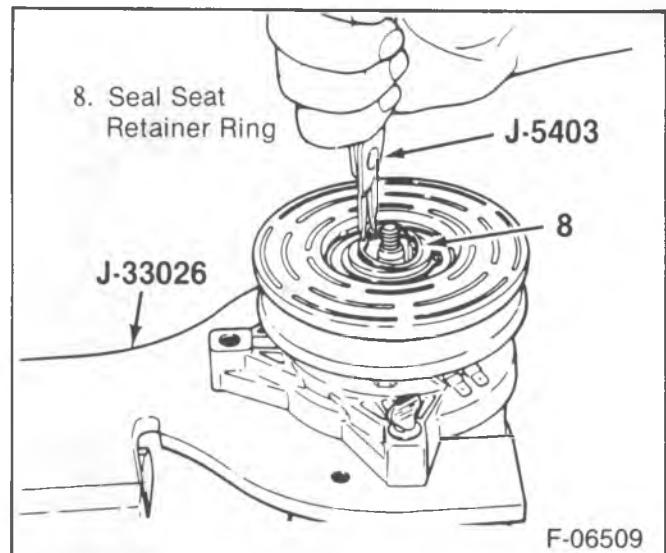

Figure 22 — Removing or Installing the Shaft Lip Seal Retaining Ring
1. Clutch plate and hub assembly (2).
- Install J 34614 over the threaded end of the shaft (20).
2. Shaft seal retainer ring (8) using J 5403 (figure 22).
- Clean the compressor neck area around the shaft (20), the exposed part of the shaft seal (9) and the O-ring seal groove.
- 3. Shaft seal retainer ring using J 5403 (figure 22).